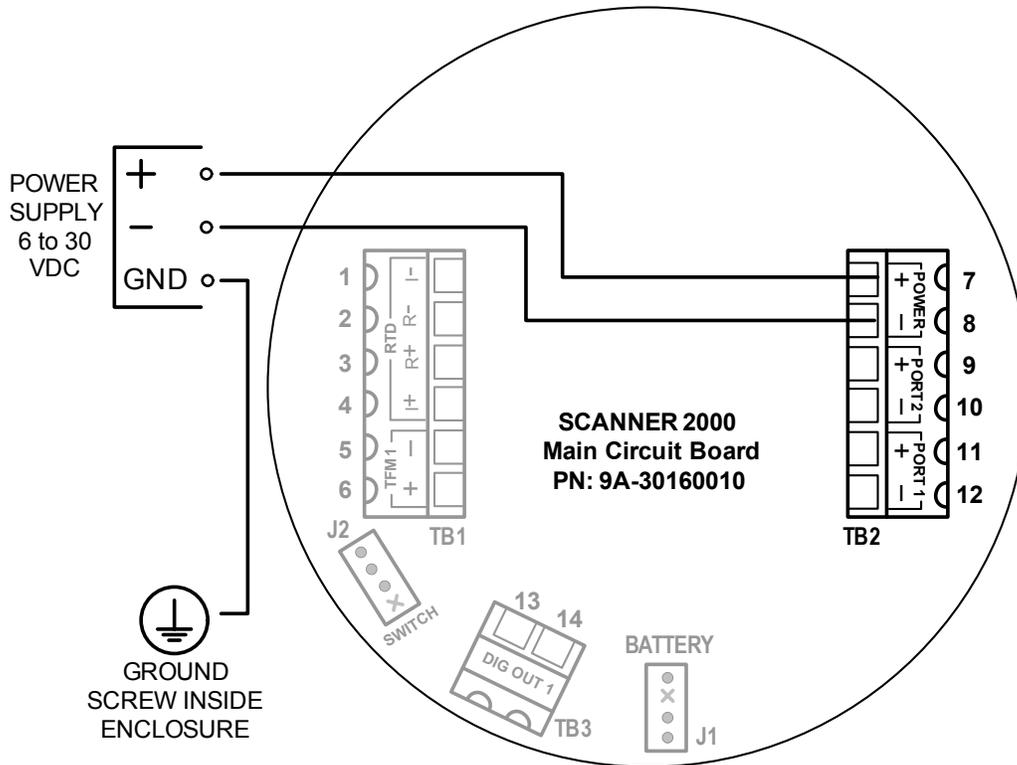

Figure 3.3 - External power supply wiring
5. Connect wiring for external power, if appropriate. See Grounding Procedures, page 60, and see Figure 3.3, page 62 for a wiring diagram.
The Scanner 2000 can be connected to a remote power supply by a two-conductor cable (Figure 3.3). The power supply and cable must be capable of supplying 6 to 30 VDC @ 50 mA.